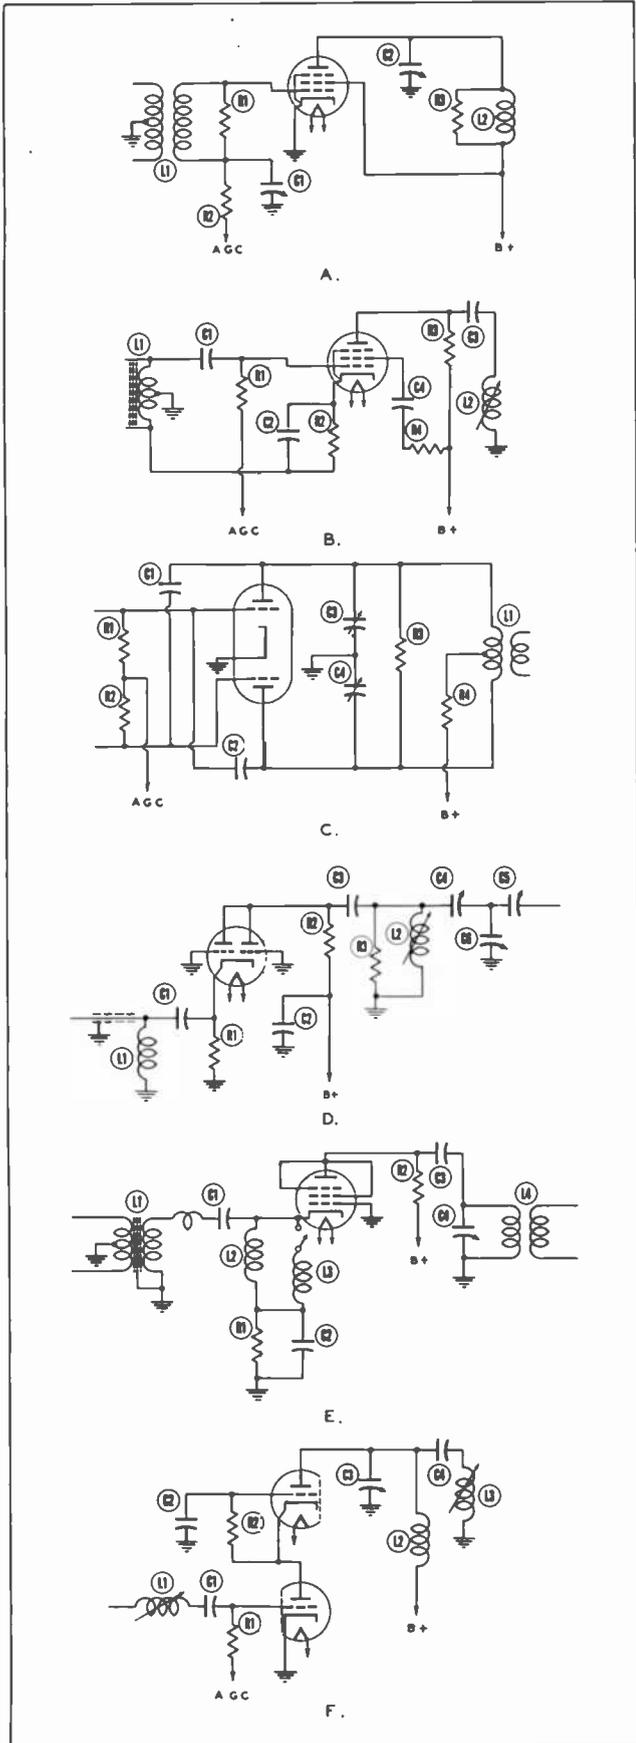

Fig. 1-2. Television Tuner RF Amplifier Circuits.
Figure 1-2 shows several types of RF amplifiers used in TV tuners: (A) is a conventional circuit having a tuned input and output. These two circuits are usually stagger-tuned to give sufficient band pass. Also, resistors are shunted across the coils to further increase the band width. Note that the input circuit is series-tuned, using the input capacity of the tube as a portion of the tuned circuit. This is possible because of the high frequencies at which the circuit operates.